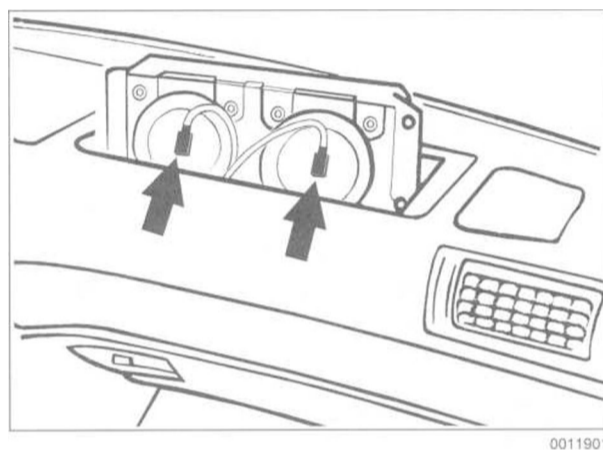

Fig. 7. Passenger side airbag harness connectors (arrows).
4. Disconnect electrical connectors from rear of air bag unit and remove airbag. See Fig. 7. Place airbag unit in safe location with padded cushion facing upward.